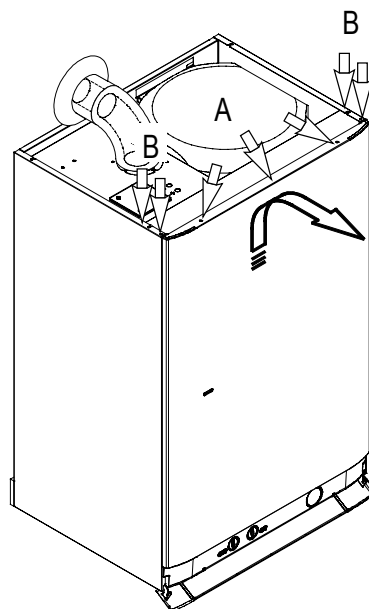
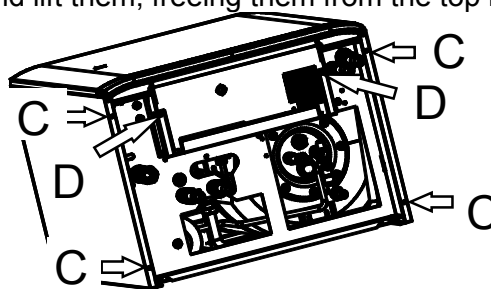
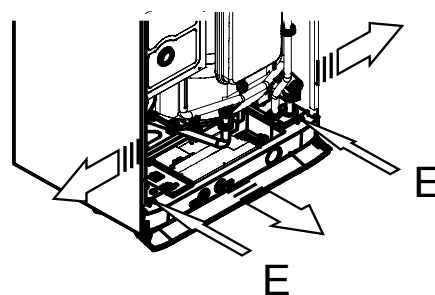

Figure 2
Figure 3
Figure 4
To remove the front panel remove screws A (Figure 2) , lift the panel and remove it.
To remove the side panels, remove the screws B (Figure 2) and the screws C (Figure 3), bring the base of the panels away from the boiler (Figure 4) and lift them, freeing them from the top hooks.
- 2) Loosen the screws and C and D (Figure 3).
- 3) Remove the screws E (Figure 4).
- 4) Move the lower part of the side panels as indicated in Figure 4 and pull the control panel. When completely pulled out, the panel can rotate 45° downwards to facilitate the service operations on the internal parts.